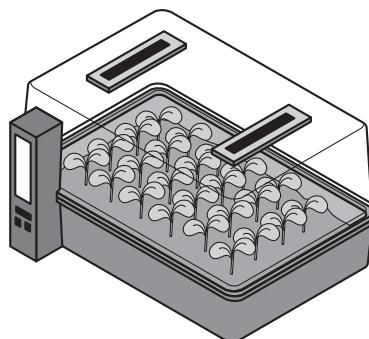

Figure Q6
6. The plant propagator shown in Figure Q6 is operated using microcontroller proportional control. It is designed to assist plant cuttings to develop roots by maintaining suitable temperature and soil moisture-content levels, by means of a heater and a water sprinkler.